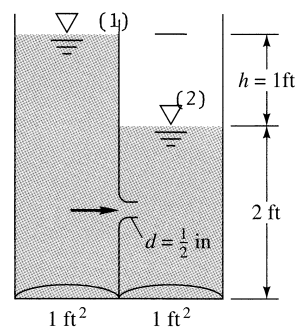

Fig. P6.153
**6.153** Two water tanks, each with base area of  $1 \text{ ft}^2$ , are connected by a 0.5-in-diameter long-radius nozzle as in Fig. P6.153. If  $h = 1 \text{ ft}$  as shown for  $t = 0$ , estimate the time for  $h(t)$  to drop to 0.25 ft.